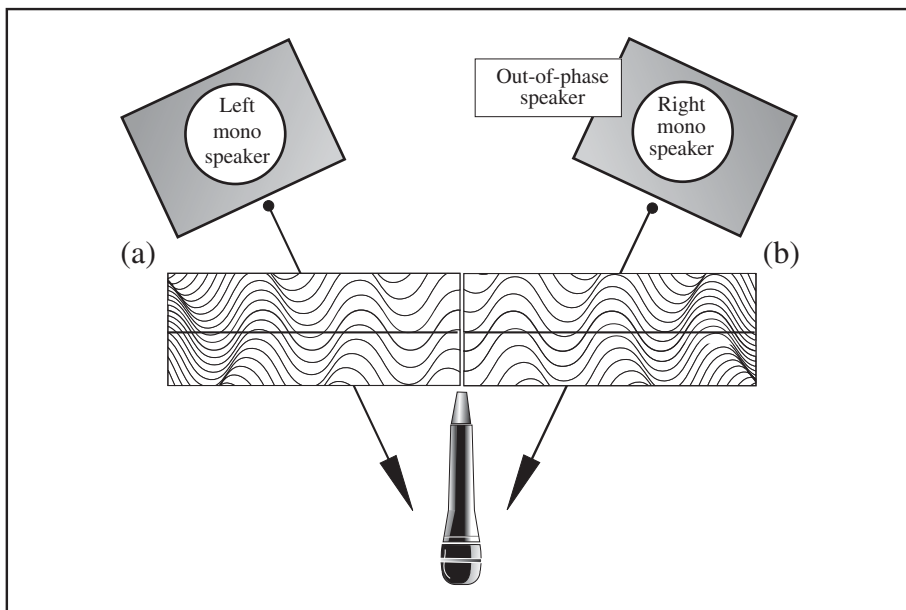

FIGURE 10.4
- **Set up opposite polarity speakers.** For vocal overdubs, if headphones are too uncomfortable for a singer to wear, Figure 10.4 shows the opposite polarity speaker setup.
- (1) Place two speakers in front of the singer at ear level.
- (2) Make a triangle by placing the microphone directly between the two. Use a tape measure to guarantee both speakers are equidistant from the microphone capsule.
- (3) At the back of one of the speakers, switch the two wires so the polarity is opposite to the other.